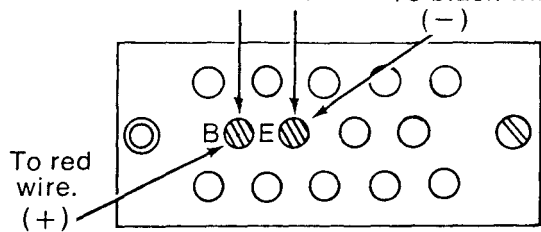

Fig. 10. Versatrip Plug Test (Female Receptacle)
- b. Apply 9VDC to appropriate plug pins as shown in Figs. 10 and 11.